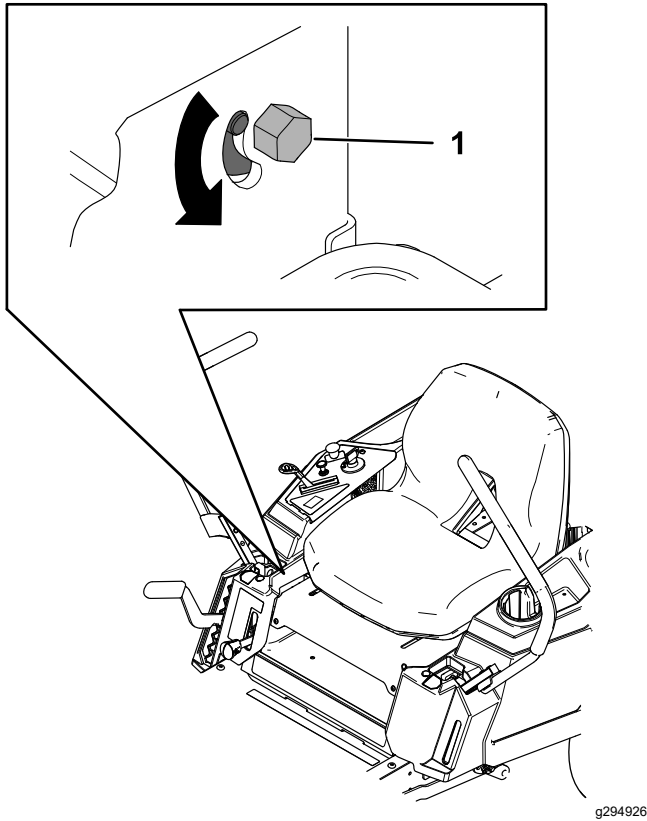

Figure 45
3. Locate the tracking-adjustment bolt near the motion-control lever on the particular side that needs adjusting (Figure 45).